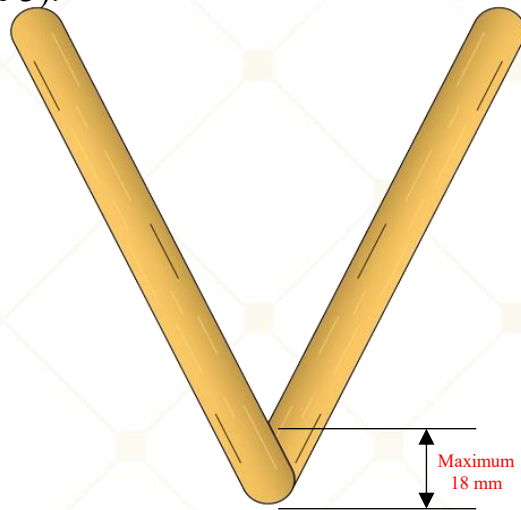

Figure 3: Example of Angular joint
- Angular (or inclined) Joint length must not be more than 18 mm (as shown in Figure 3).